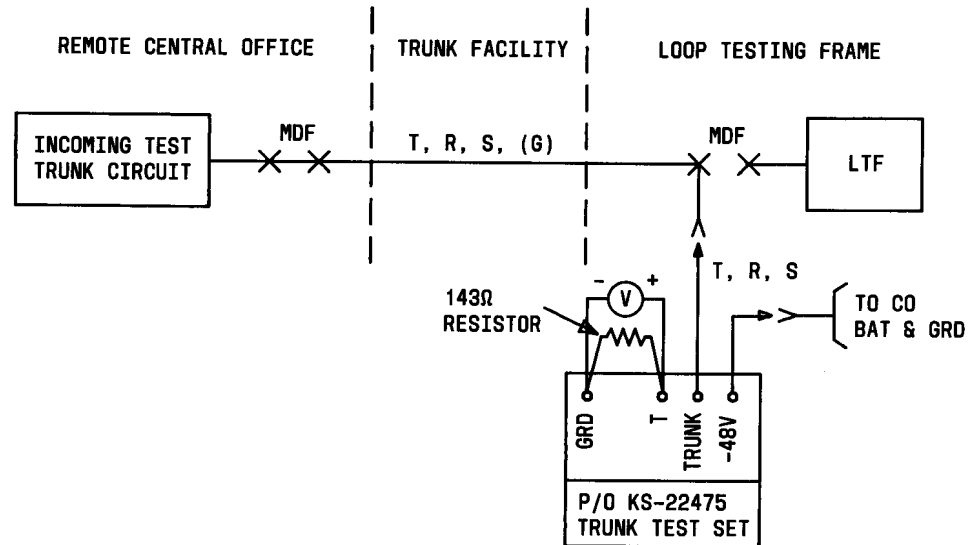

Fig. 9—Short-Circuit Current (T-G)—Connections
D. Short-Circuit Current (all test trunks) (Fig. 9 and 10).
4	Connect a 143-ohm resistor between the T and GRD terminals (see Fig. 9).